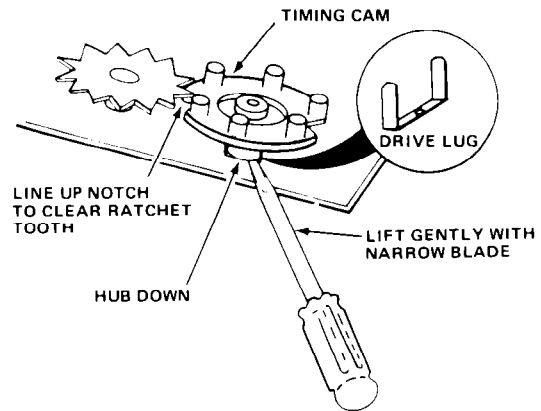

Figure 1
- Rotate cam by hand until "V" notch lines up underneath the ratchet tooth. (See Figure 1)